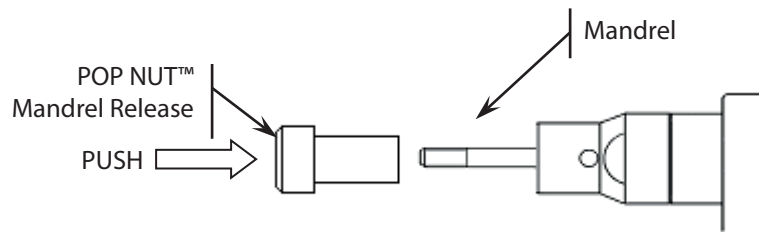

Figure 4: POP NUT™ Mandrel Release
3. Remove the Nosepiece from the tool by loosening the Lock Nut and unscrewing it (Figure 4).